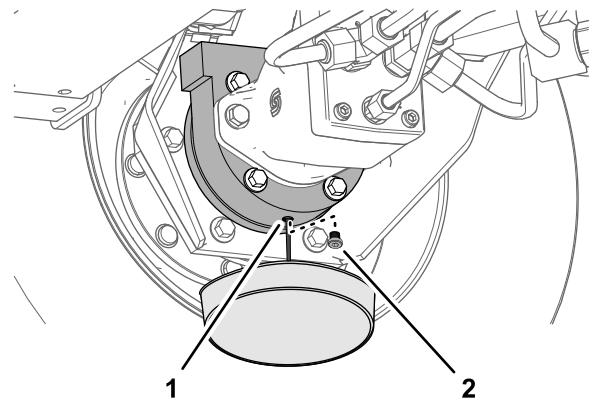

Figure 93
6. Place a drain pan under the brake housing, remove the drain plug, and allow the oil to fully drain (Figure 93).